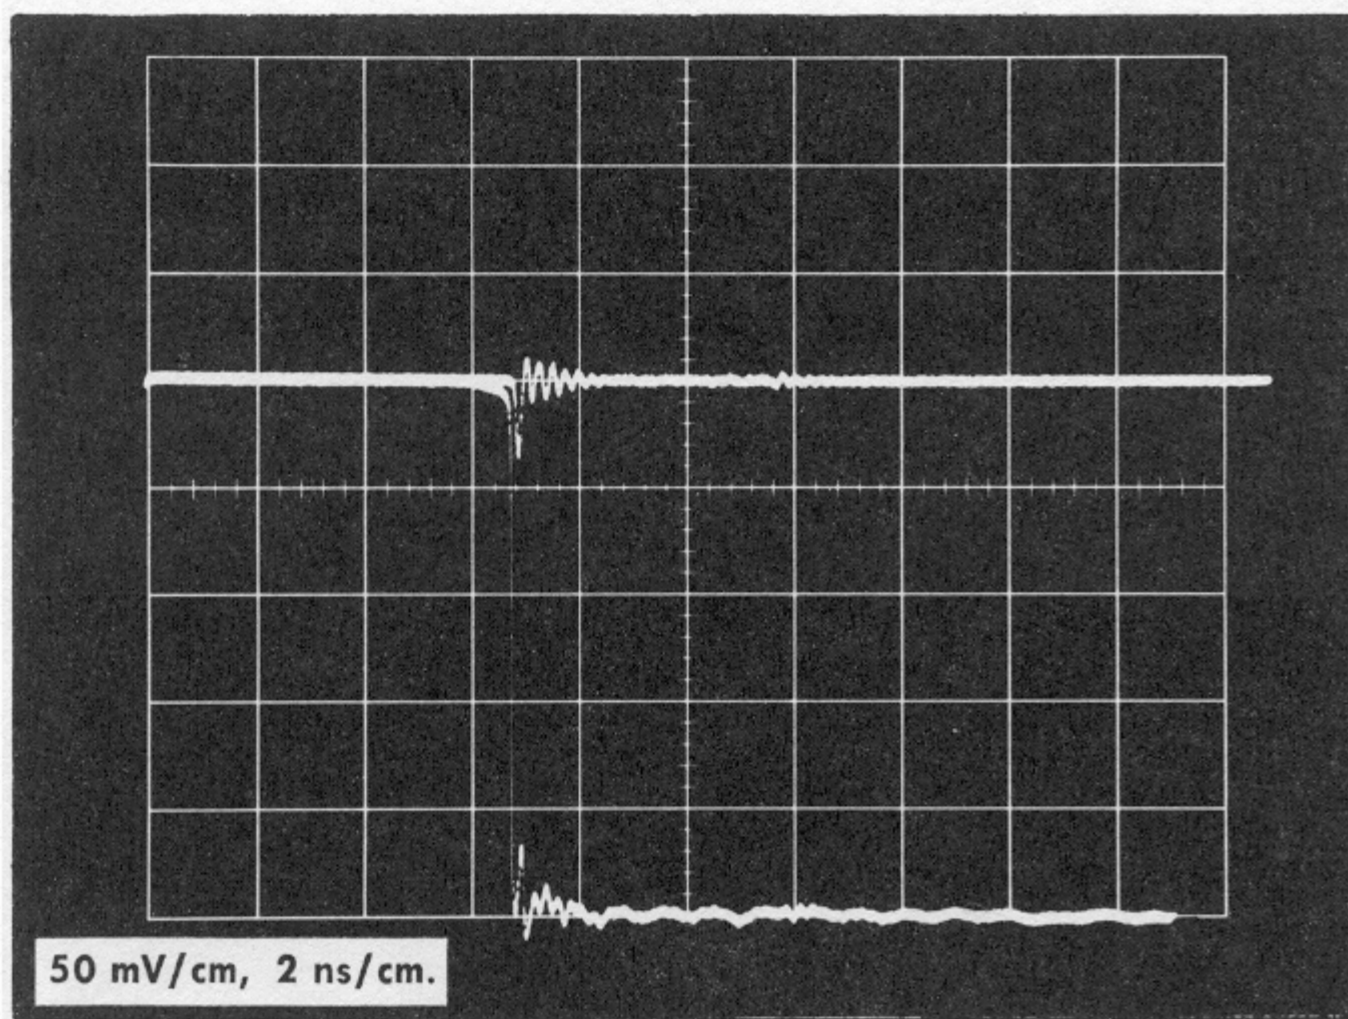

Fig. 6-25. Double exposure of displays while adjusting BASE LINE ZERO control, step 22A.
c. Change the Timing Unit Equivalent Time/Cm control to 2 ns/cm and adjust the Time Position control for a negative step display similar to the negative step portion of the double exposure of Fig. 6-25. Set the vertical unit mV/cm control to 50. Fig. 6-25 upper, and nearly flat trace, was obtained by pulling the coaxial cable away from the vertical unit just far enough so the center conductors capacitively coupled in the small ringing signal. With the coaxial cable center conductor not making contact, adjust the vertical Position (or DC Offset) control so the trace start coincides with a graticule line.
The two adjustment controls interact slightly. The final adjustment of both the TD BIAS and the BASE LINE ZERO controls is where the pulse starts negative (from zero volts) with only a very small drive signal slope apparent. Fig. 6-25 double exposure shows an example of proper adjustment of the two controls.